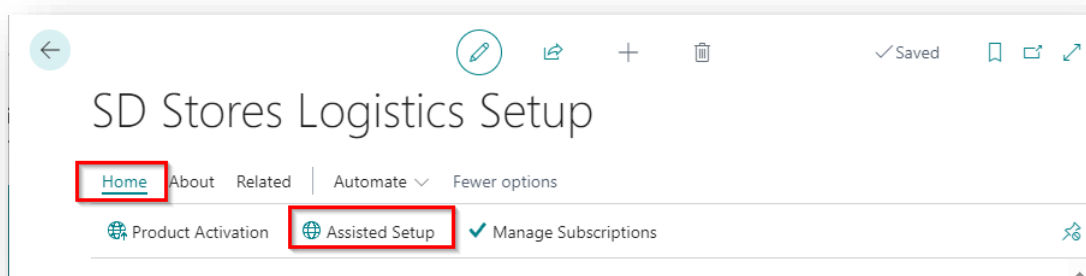

Figure 6-1
1. In the **SD Stores Logistics Setup**, from the menu choose the **Home** group, and then **Assisted Setup** (*Figure 6-1*).